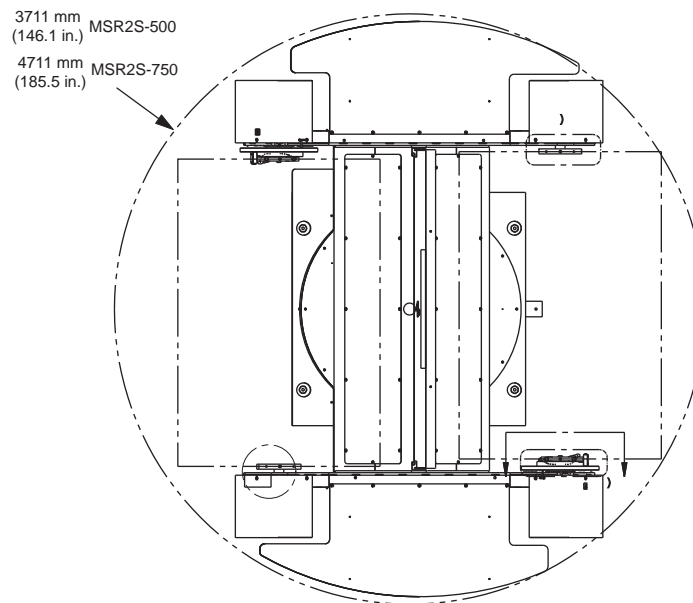

Figure 4 Area Needed for Installation
1. Clear the floor space needed for the positioner. Refer to Figure 4 for the area needed for installation.